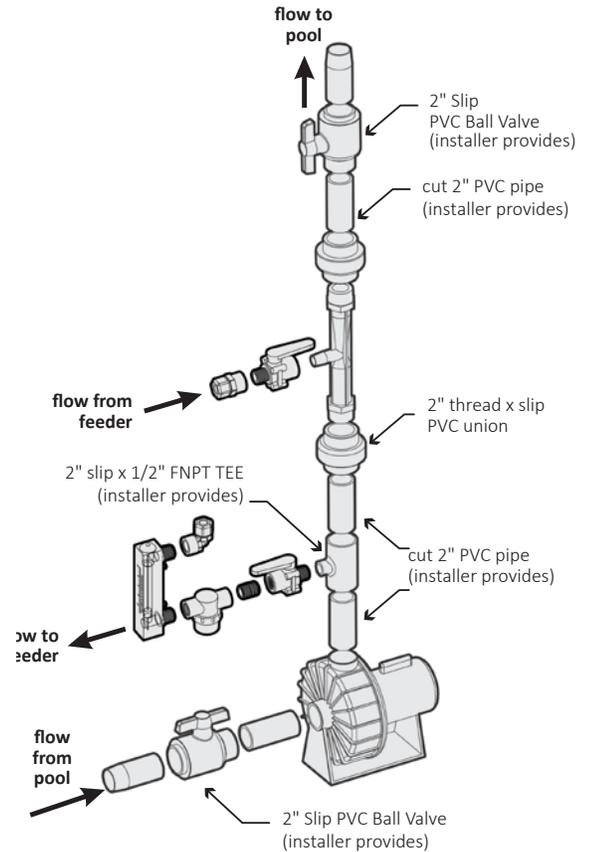

Figure 6. Complete the 2" piping run
Downstream of your pool filter(s), connect the booster pump suction and venturi outlet 1 1/2" piping: See Figure 6.
8. Install the rest of the piping assembly from the pump discharge as shown in Figure 6. Ensure the venturi is oriented in the direction flow.